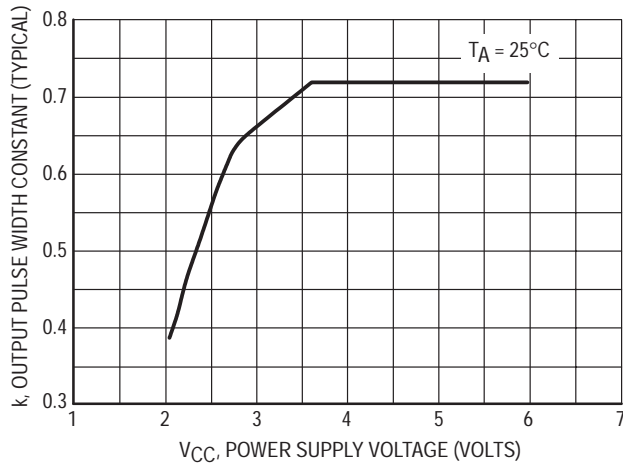

Figure 1. Typical Output Pulse Width Constant, k, versus Supply Voltage
*For output pulse widths greater than 100 μs, typically $\tau = kR_X C_X$, where the value of k may be found in Figure 1.